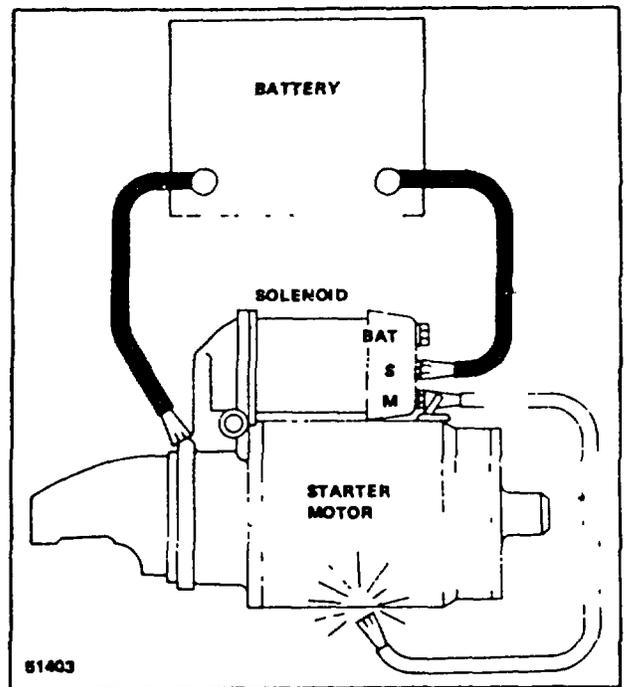

Figure 61. Circuit for Checking Pinion Clearance'
2. Connect a battery, of the same voltage as solenoid, from the solenoid switch terminal to the solenoid frame (See Figure 61).